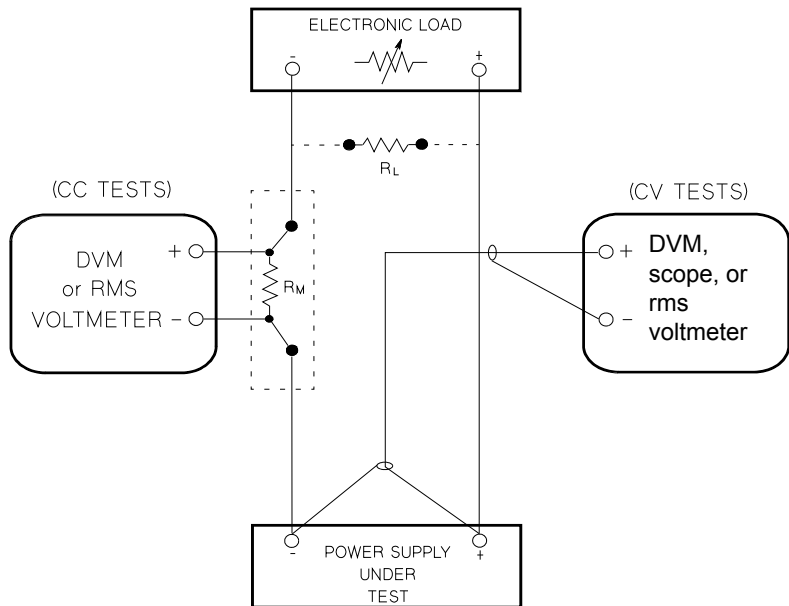
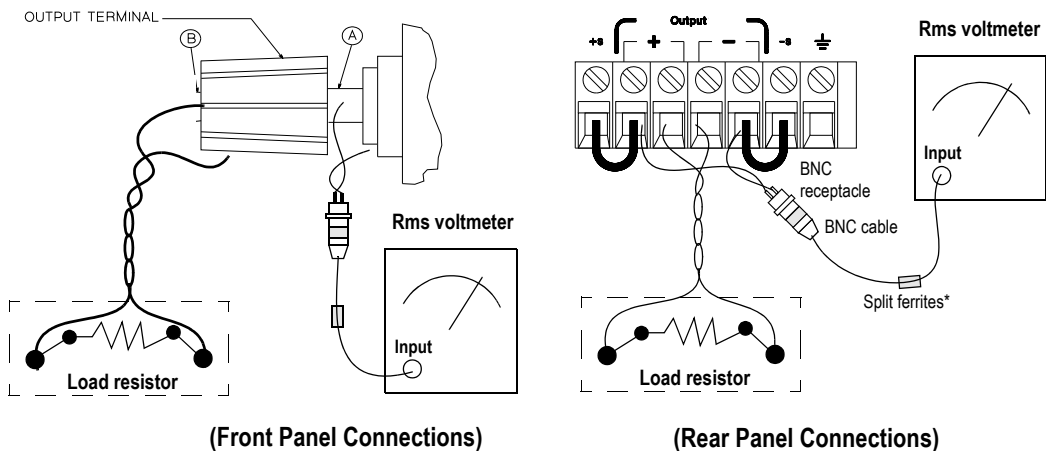

Figure 8-1 Performance verification test setup
Figure 8-3 Front/rear panel terminal connections for the Vrms measurement
Most tests are performed at the front terminals as shown in **Figure 8-1**. Measure the DC voltage directly at the (+) and (-) terminals on the front panel.
To eliminate the output current measurement error caused by the voltage drops in the leads and connections, connect the current-monitoring resistor between the (-) output terminal and the load as a four-terminal device. Connect the current-monitoring leads inside the load-lead connections directly at the monitoring points on the resistor element (refer to R_M in **Figure 8-1**).
- 1 Turn off the power supply and connect a digital voltmeter between the (+) and (-) terminals of the output to be tested as shown in Figure 8-1.
- 1 Turn off the power supply and connect a digital voltmeter between the (+) and (-) terminals of the output as shown in Figure 8-1.
For better measurement results, it is recommended to make the connection between the BNC receptacle and the output terminals as short as possible, and to use the recommended split ferrites with the BNC-to-BNC cable as shown in Figure 8-3.
- 1** Turn off the power supply and connect the output to be tested as shown in Figure 8-1 to an oscilloscope (AC-coupled) between the (+) and (-) terminals. Set the oscilloscope to the AC mode and bandwidth limit of 20 MHz. Connect a resistive load ($13.5\ \Omega$)^[1] to the terminal at (B) as shown in Figure 8-3.
- 5** Disconnect the oscilloscope and connect the AC rms voltmeter in its place according to the Vrms measurement techniques above and as shown in Figure 8-3. The rms voltage reading does not exceed the rms limit of 0.5 mV^[3] or 1 mV^[4].